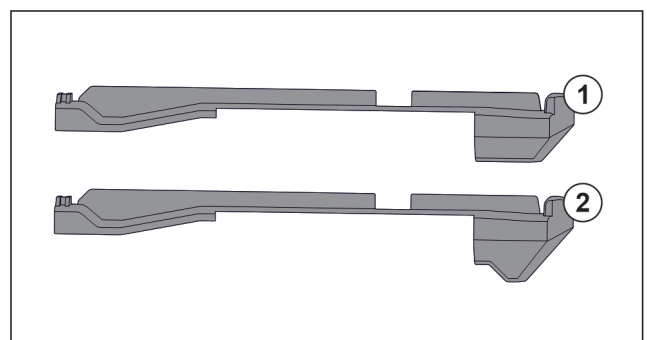

Fig. 83 Comparing attachments
There are two different attachments in the appliance. The attachment above the lowest drawer Fig. 83 (2) has a three-cornered edge. All other attachments Fig. 83 (1) have a straight edge.
- ▶ Fit attachment Fig. 83 (2) with the three-cornered edge above the lowest drawer.
- ▶ Fit attachment Fig. 83 (1) with straight edge in all other positions.